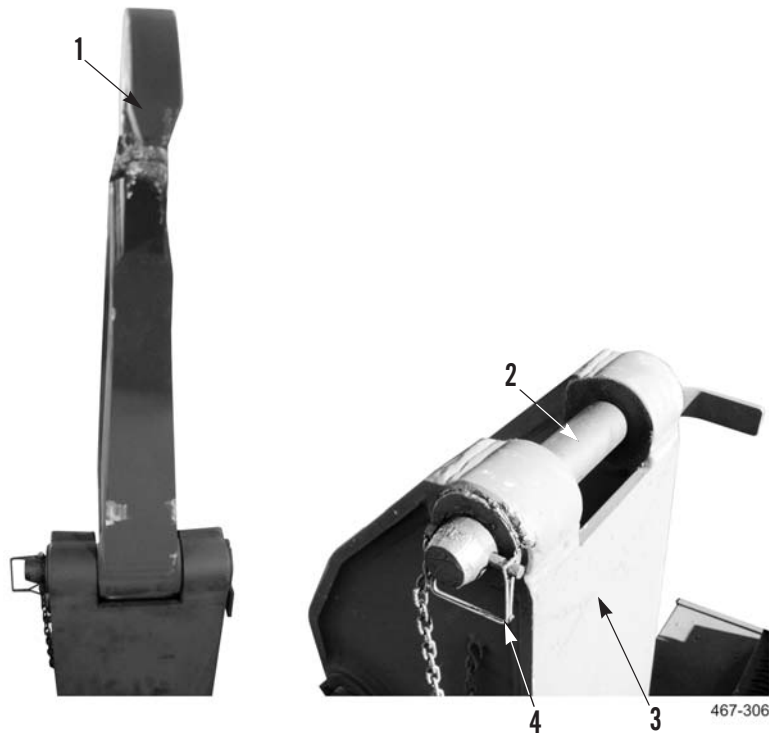

Figure 17. Raise Hook Arm.
25. Attach sling and lifting device to hook arm (Figure 17, Item 1).
26. Remove locking pin (Figure 17, Item 4) and hook arm pin (Figure 17, Item 2) from hook arm base (Figure 17, Item 3).
27. Use lifting device to raise hook arm (Figure 17, Item 1) until aligned with hook arm base (Figure 17, Item 3).
28. Install hook arm pin (Figure 17, Item 2) and locking pin (Figure 17, Item 4) in hook arm base (Figure 17, Item 3).
29. Remove lifting device and sling from hook arm (Figure 17, Item 1).